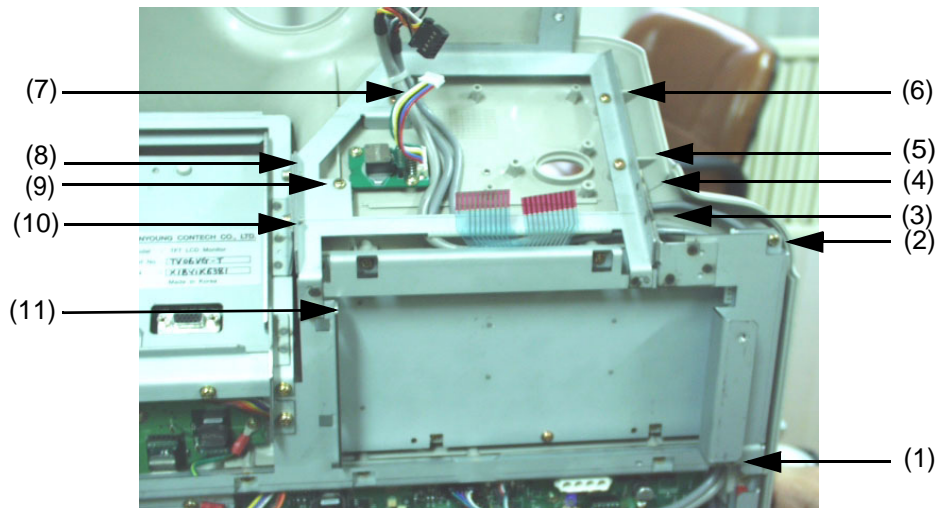

Figure 8-35    Unscrew 11 screws
3.) Unscrew eleven (11) screws (1-11) to remove the A/N keyboard prefix bracket. Refer to Figure 8-35.